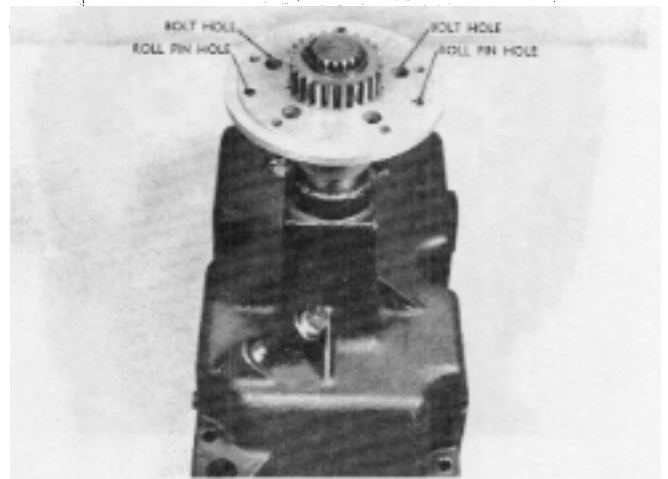

FIGURE 6
The matching roll pin holes in the left hand end cap are also located next to the bolt holes, but in the right hand end cap they are between bolt holes as shown in Figure 6.
3. Using the left hand case as a workstand, place the right hand (long) axle and right hand end cap (long) assembly in the axle housing. Figure 6.